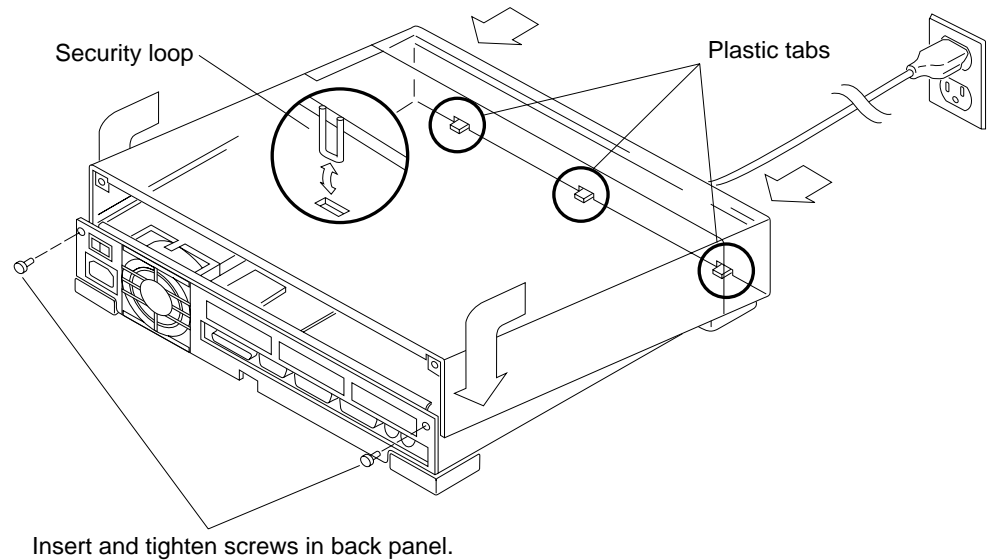

Figure 4-27 Replacing the System Unit's Cover
2. **Gently guide the plastic tabs on the front of the cover into the tab slots on the front of the chassis (see Figure 4-27).**